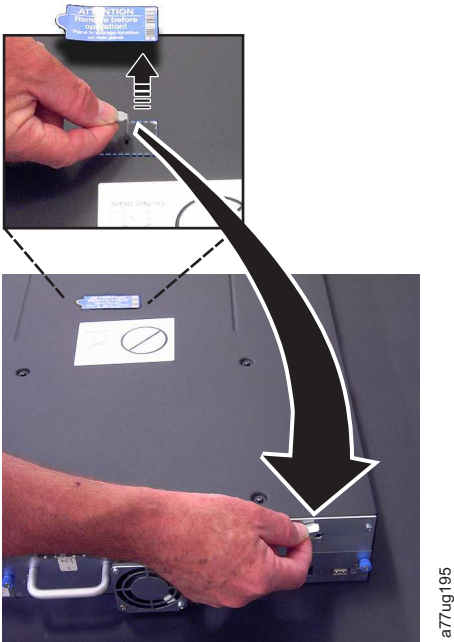

Figure 149. Removing the shipping label and lock from the top of the library and storing on the rear panel
4. Remove the shipping lock from the top of the replacement library enclosure (see Figure 149 on page 192).